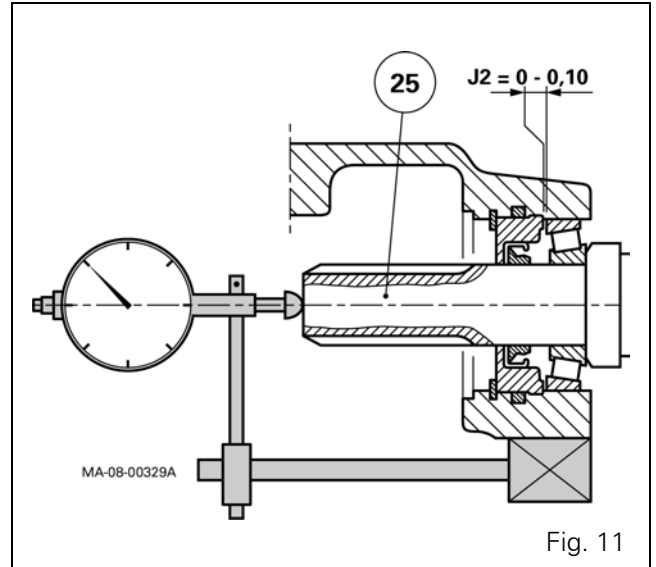

Fig. 11
57. Fit the bearing (22) and circlip (23).
58. Put a dial gauge feeler pin against the end of shaft (25) (Fig. 11).
62. Depending on the clearance measured, select the thickness of shim(s) (20) required to obtain J2.
63. Remove the circlip (23), cap (22), cup (18) and the shaft (25).
64. Fit the seal rings (12) in the shaft grooves (25) and hook their ends. Ensure that they turn freely.
65. Fit the cone (14) into the bearing cup (13). Install the shaft (25) after positioning the clutch assembly (16) and bell gear (15) in the housing.
66. Fit the cup (18) and shim(s) (20) (smeared with grease) selected at operation 62.
67. Fit the O'ring (21) in the housing groove.
68. Fit the cap (22) and circlip (23), remove the spline protection on the shaft.